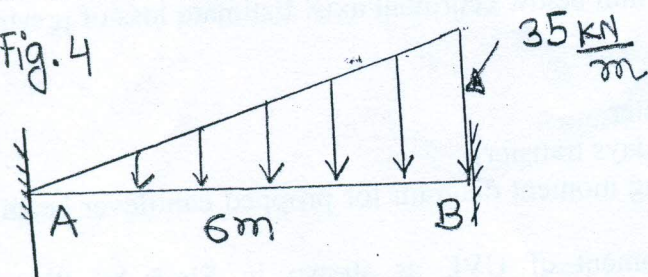

Fig.5
**(B)** (i). Determine fixed end moment of UVL as shown in **Fig.5** by directly equation. 05